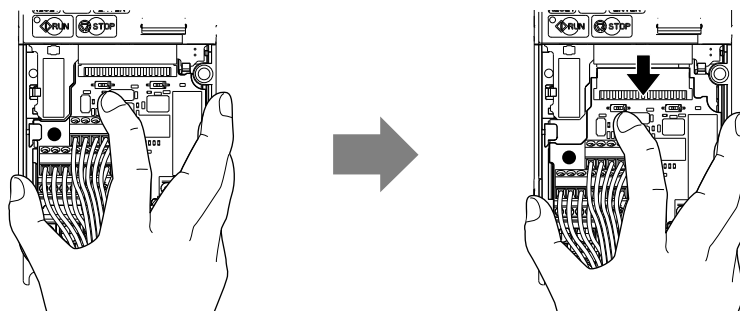

Figure 7.9 Remove the Terminal Board
4. While holding down the locking pin from step 3, slide the removable terminal block in the direction of the arrows in Figure 7.9.